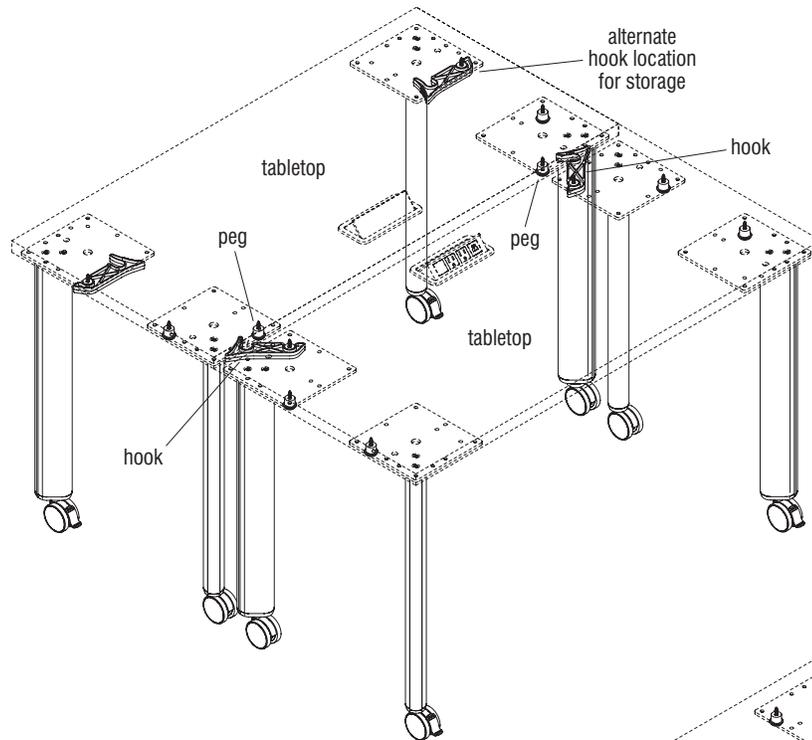
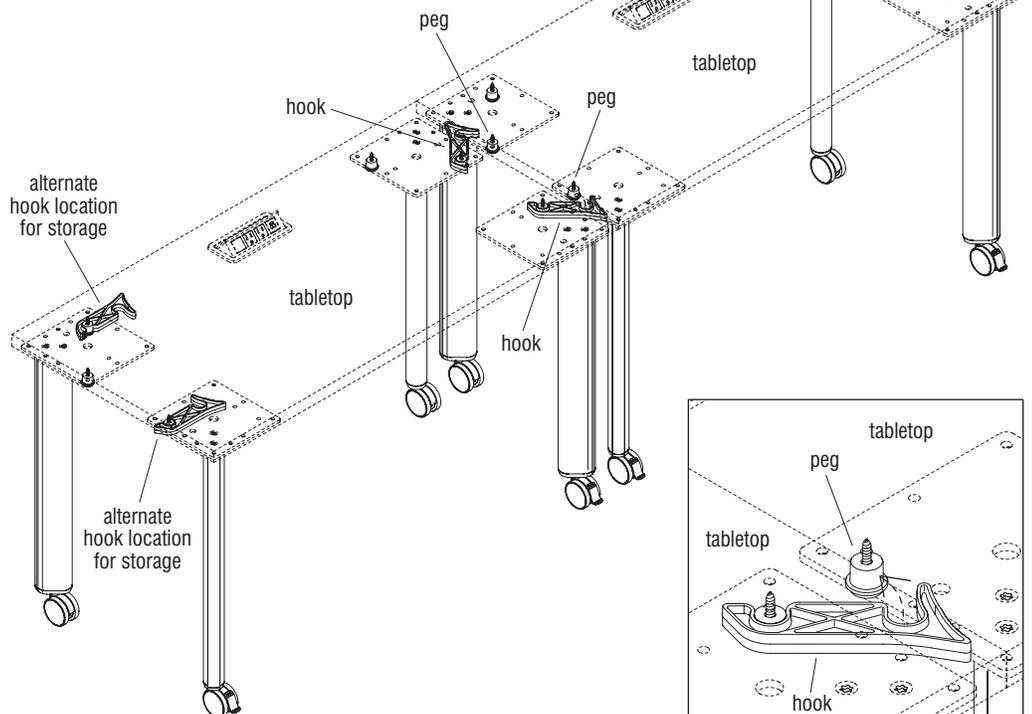

Figure 3 - (back-to-back ganging)
Figure 4 - (side-to-side ganging)
4. Move the two tables together side-to-side or back-to-back based on the desired configuration, such that the two pair of ganging pegs face each other. Swing the hooks to the opposite peg to securely gang tables together (Figures 3 & 4 & Detail C).
5. Position and snap any extra pegs onto any extra pegs underneath the tabletops. For hook storage, when tables are not paired, disconnect the table edge ganging hooks and swing them underneath the tabletop or move them to an empty peg mounted at each corner of the table (Figure 3 & Figure 4).